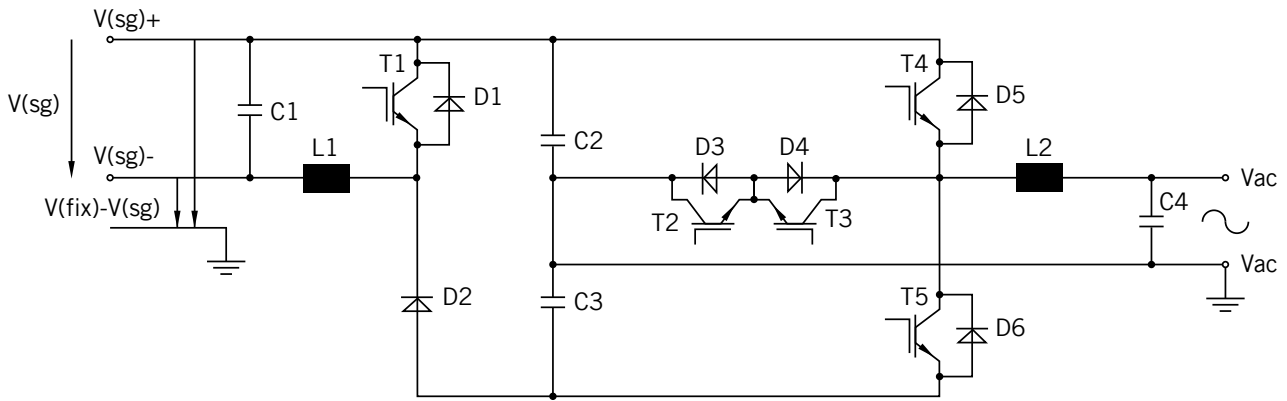

Figure 13: Circuit diagram with transformerless inverter with asymmetric step-up converter and divided indirect voltage link AC converter
This topology (Fig. 13) represents a special form of quiet rail topology. By shifting the diode D2 into the low current path, the step-up converter (C1, L1, T1) operates quasi asymmetrically in relation to the indirect voltage link AC converter. With this circuit the positive potential of the solar generator $U(\text{fix})$ is set to a fixed value relative to the mounting system potential (PE) within the operating limits of the step-up converter. This is usually one-half of the operating voltage of the step-up converter (approx. 350 V - 400 V). The potentials are divided symmetrically in relation to the ground potential only when the operating range of the step-up converter is exceeded by the string voltage. The potential of the negative generator pole in relation to ground can then be influenced directly by the string voltage. The voltage drop between the negative generator pole and mounting system results from the difference between the fixed value and the string voltage $U(\text{fix}) - U(\text{sg})$. If the number of modules in the string is selected so that the Mpp voltage is less than the value $U(\text{fix})$, it is possible to ensure that the potential difference between the mounting system and the negative generator pole is not negative during feed-in. In this case it is necessary to ensure that the inverter still operates in the Mpp range at the selected string voltage.